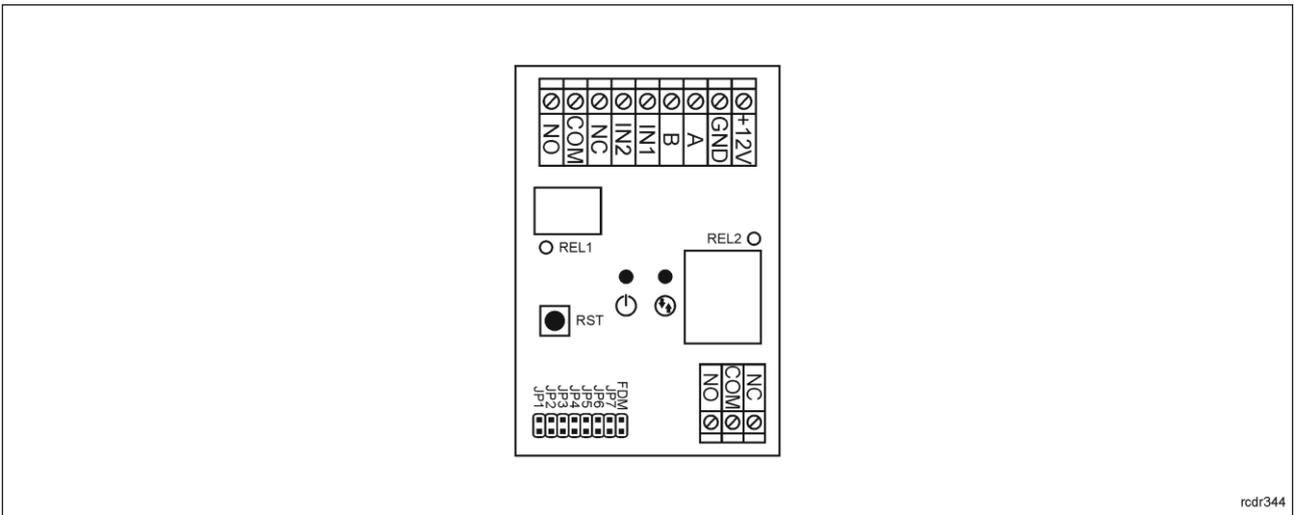

Fig. 3 MCX2-BRD expander
In RACS 5 v2 system the expander can be installed at site without previous configuration. According to AN006 application note, its address and other settings can be configured from VISO v2 management software and during such configuration the access to its service contacts (fig. 3/4) is not required.
2. Remove jumper from JP7 contacts (fig. 3/4) if it is placed there.
2. Place jumper on FDM contacts (fig. 3/4).